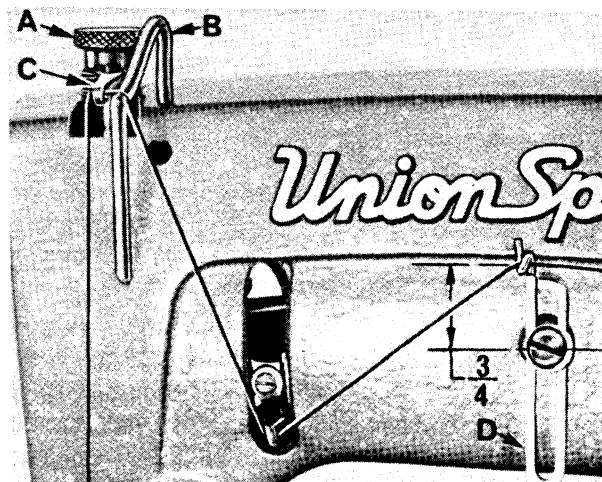

Fig. 14
Regulate presser spring regulating screw (A, Fig. 14) so that it exerts only enough pressure on the presser foot to feed the work uniformly when a slight tension is placed on the fabric. Turning it clockwise increases the pressure, counterclockwise acts the reverse.
Set needle thread take-up wire (B, Fig. 14), so that its upper surface is even with the top of the holes in needle bar thread eyelet (C) when needle bar has completed its downward stroke. Lower this setting for a smaller needle thread loop, or raise it for a larger loop. Set needle thread frame eyelet (D) so that the eyelet hole is 3/4 inch (19.0mm) above the attaching screw on all Styles except on Styles 56500 J, 56900 H, J, P and R the eyelet is to be set 5/8 inch (15.9mm) above the attaching screw and on Style 56200 H the eyelet is to be set 1 inch (25.4mm) above the attaching screw.